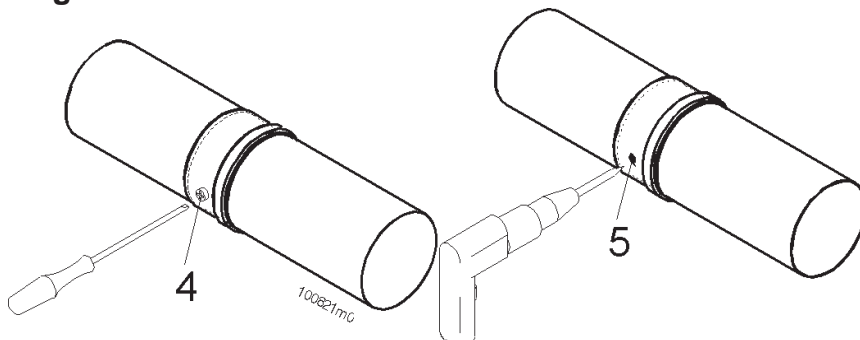

Figure 13 - Fixing of the flue gas discharge and air intake pipes
**CAUTION!!!** All venting **MUST** be secured with screws, and **MUST** be sealed from flue or air leakage, see figure 13.